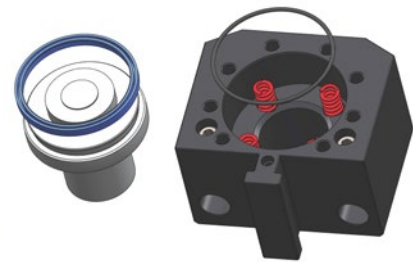

Figure 12
11. Replace the blue groove sealing ring and the black housing sealing ring. Ensure that the rings are evenly positioned (Figure 12).